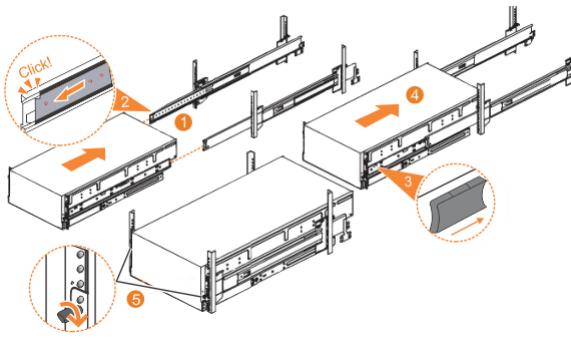

Figure 61. Replacing the 5U enclosure in the rack
1. Fully extend the left and right drawer sections from the rack to lock the rails in the extended position (**1** in Figure 61 on page 58).
2. Ensure that the ball bearing retainer clicks into place inside the front of the left and right drawer sections (2 in Figure 61 on page 58).
4. Locate the left and right blue release tabs near the front of the enclosure. Press both release tabs forward to unlock the drawer mechanism (3 in Figure 61 on page 58).
5. Push the enclosure firmly into the rack (4 in Figure 61 on page 58).
6. Tighten the locking thumb screws (5 in Figure 61 on page 58) to secure the enclosure in the rack.